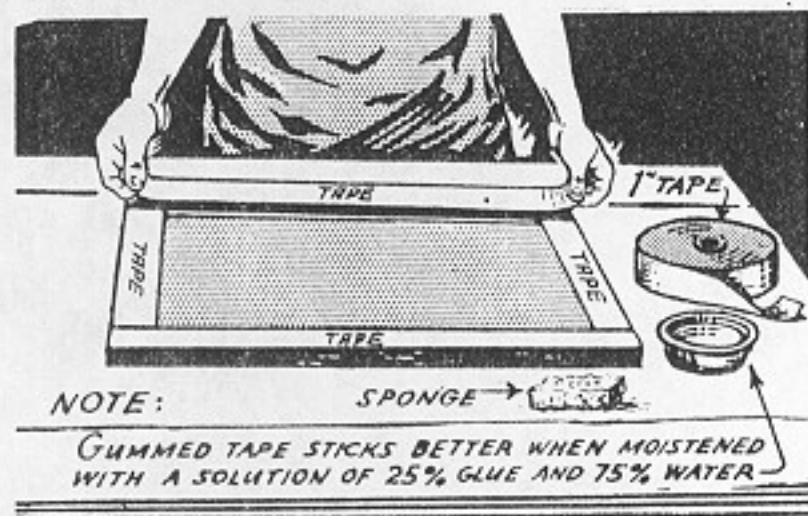

Fig. 35. Cover Edge of Silk With Gummed Tape
Bowl or can, large enough to mix the "glue solution" (See Fig. 35), about one pint capacity.
6. To further protect the tacked edges of the silk, the surface of the frame is taped, Fig. 35. Use the "glue solution" of one part glue and three parts water to moisten the gummed tape. Tape the edges of the frame as shown, overlapping $\frac{1}{4}$ of an inch to $\frac{1}{2}$ inch of the silk mesh.